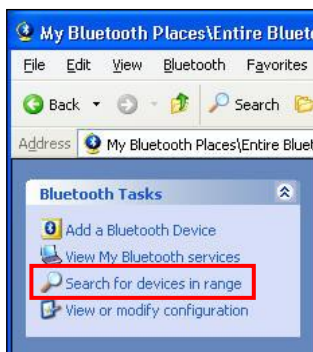

Figure 52: Search for devices in range
4. Right-click the Bluetooth icon on the Windows taskbar and select *Explore My Bluetooth Places* from the pop-up menu to open the *My Bluetooth Places* dialog box (refer to Figure 52).